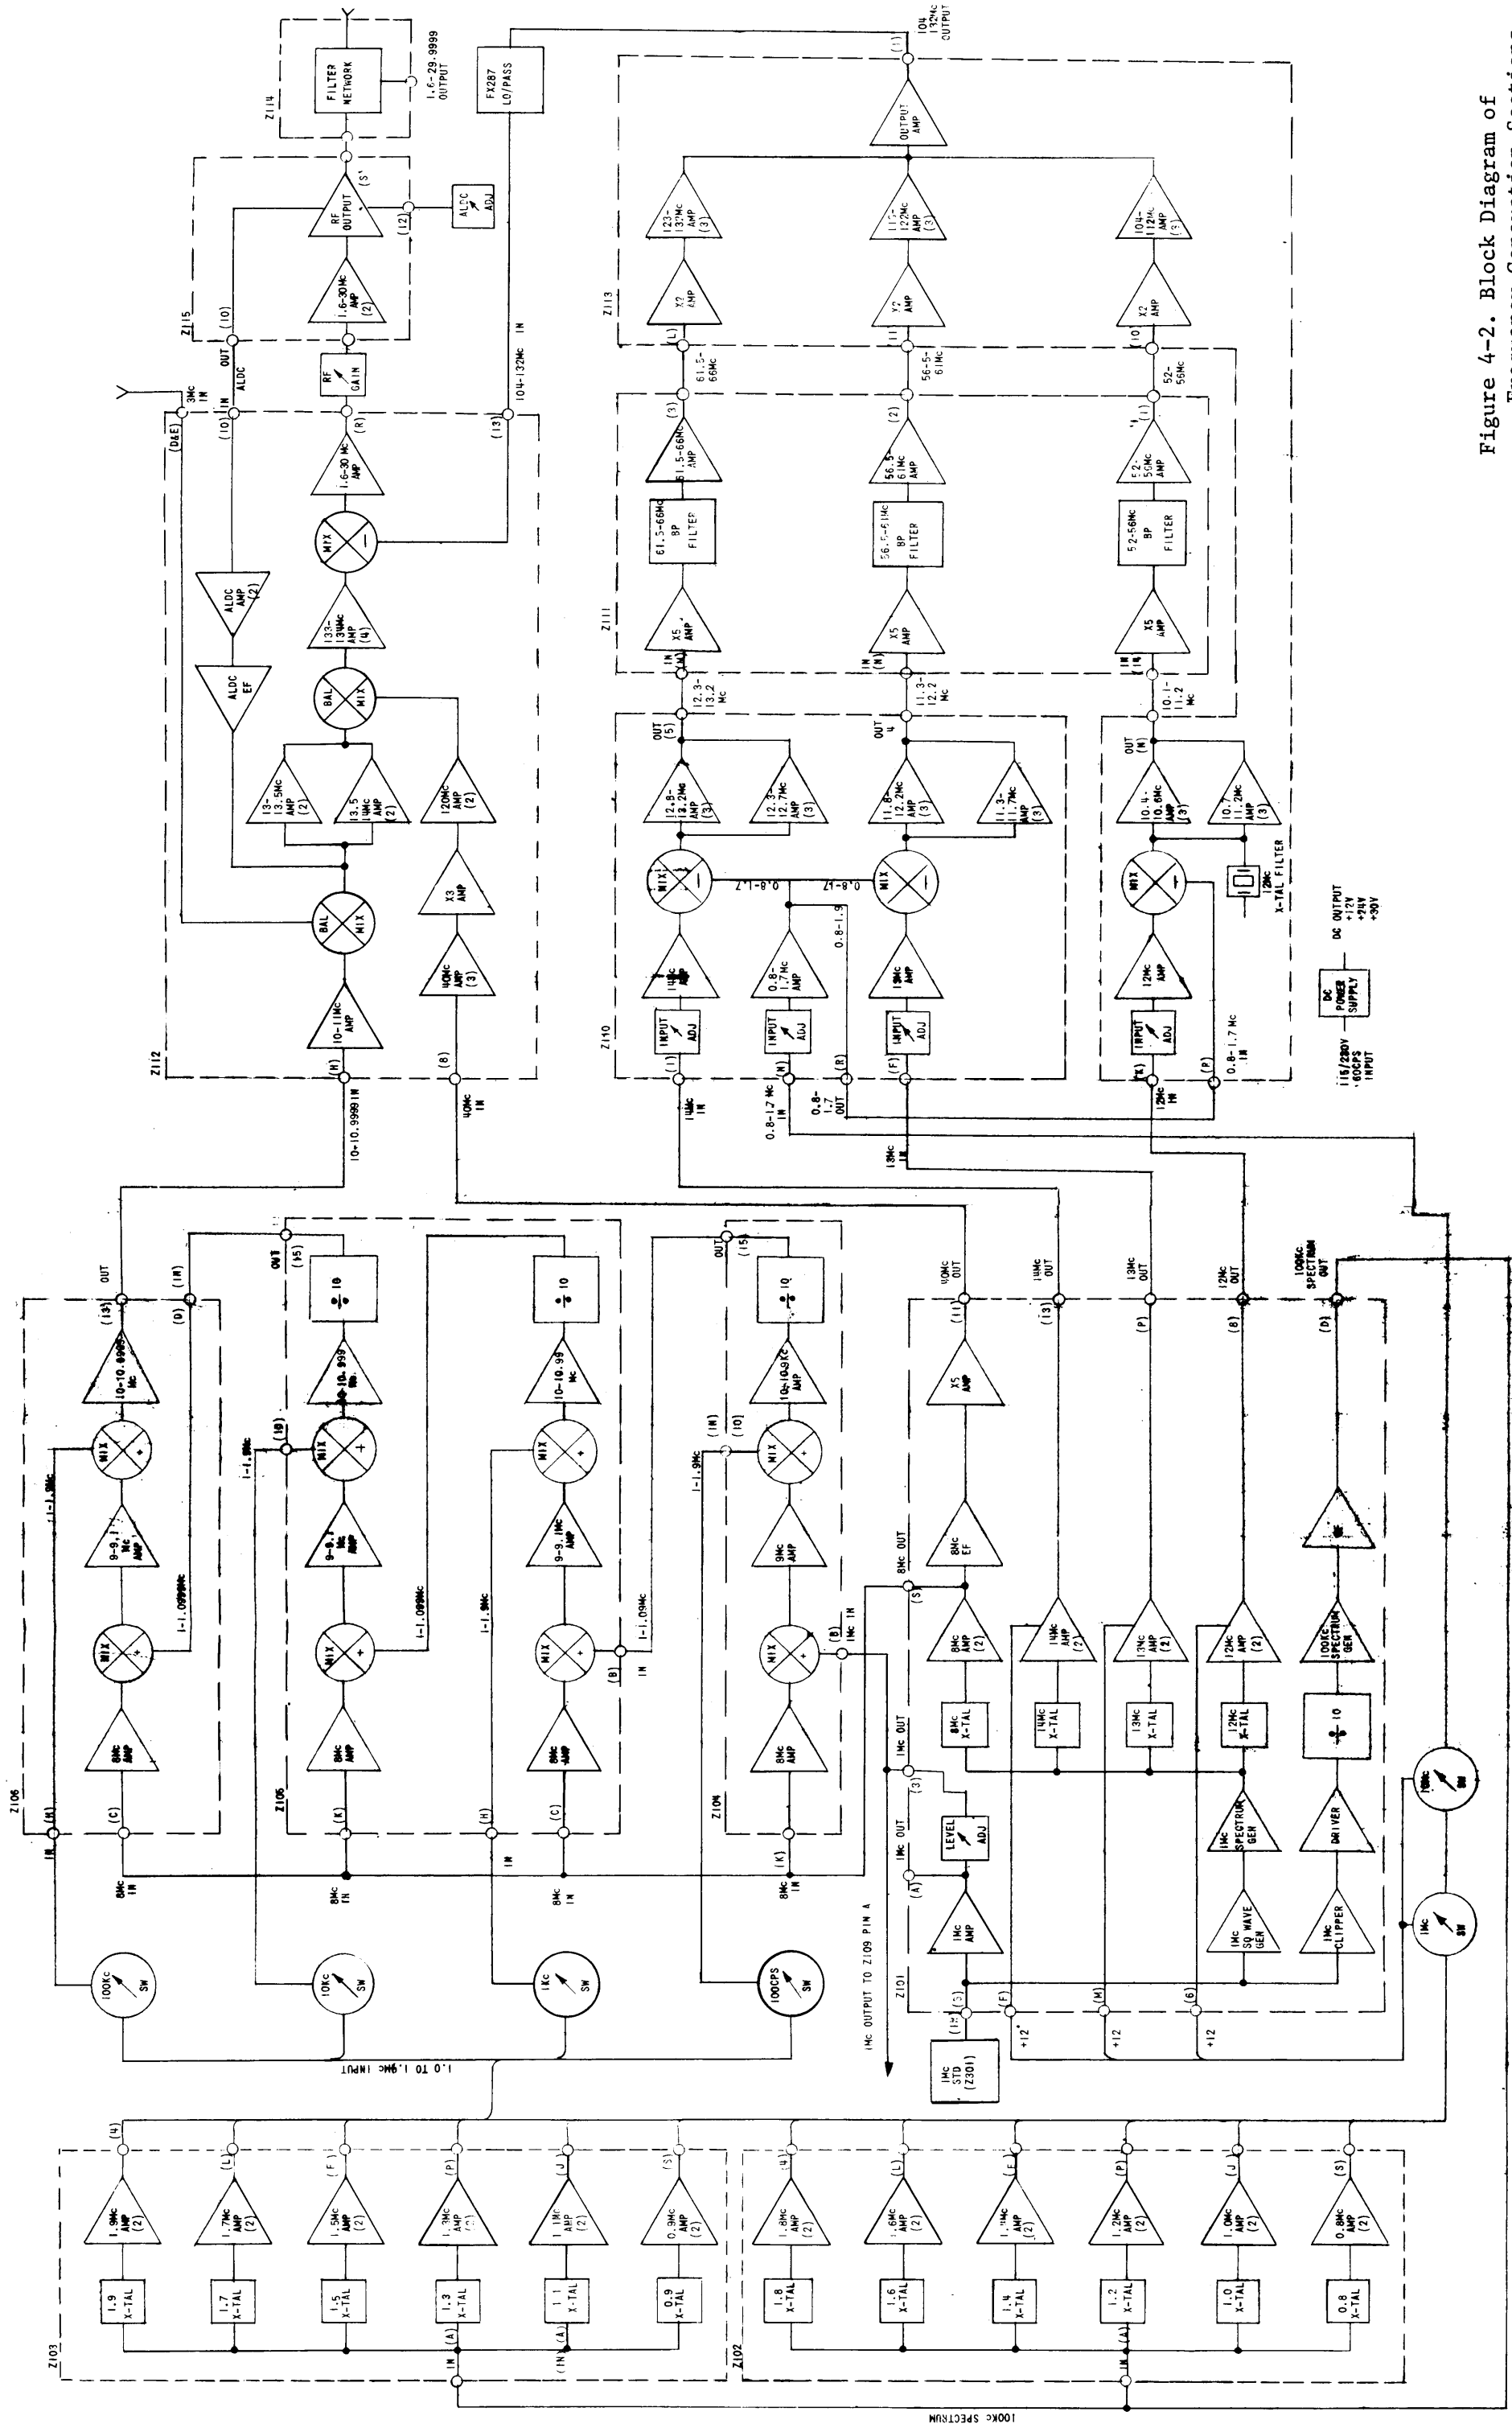

Figure 4-2. Block Diagram of Frequency Generation Sections
b. Block Diagram Analyses of the Frequency Generation Sections (refer to figure 4-2). - The frequency generation portion of the exciter is broken down into the following sections: Spectrum Generator Section; Comb Filter Sections A and B; Mixer Divider Section; Step Generator A; Step Generator B; Step Generator C; and the Translator RF output Section.
(1) Spectrum Generator (Z101) uses a 1 mc signal to produce a low impedance 1 mc output connected to the 1 mc input to the signal generator and a 100KC spectrum output connected to comb filters A and B. Z101 also provides 1 mc spectrum generator controlled crystal frequencies of 8 mc (used for Mixer Divider Section), 40 MC (used for input to the Translator Section), 12 mc, 13 mc, and 14 mc (used for inputs to Step Generators A, B, and C) all these signals have the same stability as the 1 mc standard.
(2) Comb Filter Sections A and B (Z102 and Z103) accept the 100KC spectrum generator signal and filter this input with 12 crystal controlled filter and amplifier circuits resulting in 12 frequencies from 8 mc to 1.9 mc. These frequencies are switch selectable for application to the Mixer Divider sections and the Step Generator Sections. (refer to paragraph 4-4 for details)
(3) Mixer Divider Section (Z104 thru Z106) provides three Mixer Divider circuits and a mixer circuit to produce from the three signal sources applied (1 mc, 8 mc and 1.0 to 1.9 mc) a signal in the frequency range of 10-10.999 mc for use in the Translator Section. This is accomplished by mixing the 1.0 to 1.9 mc switch selectable input with stages of mixed and divided signals (see discussion in paragraph 4-5).
(4) Step Generator A (Z110) is configured to accept and mix, using two individual circuits, the 13 mc and 14 mc signals from the Spectrum Generator Section with the .8 to 1.7 mc input from the Comb Filters. The mixed outputs are each applied to two multiplier stages with a filter network between them (see Step Generators B and C).